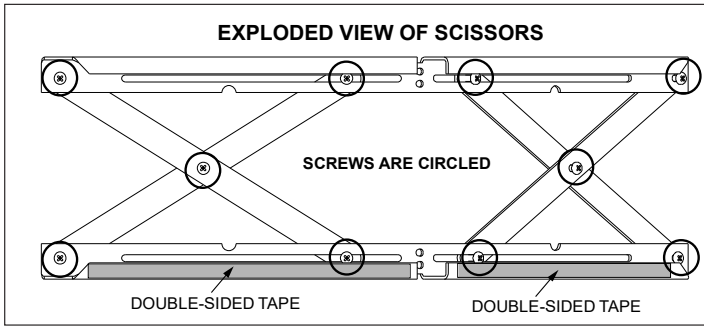

Figure 24.1
1. The 10 screws on each set of scissors will already be loose when shipped. **Figure 24.1 on page 24.**